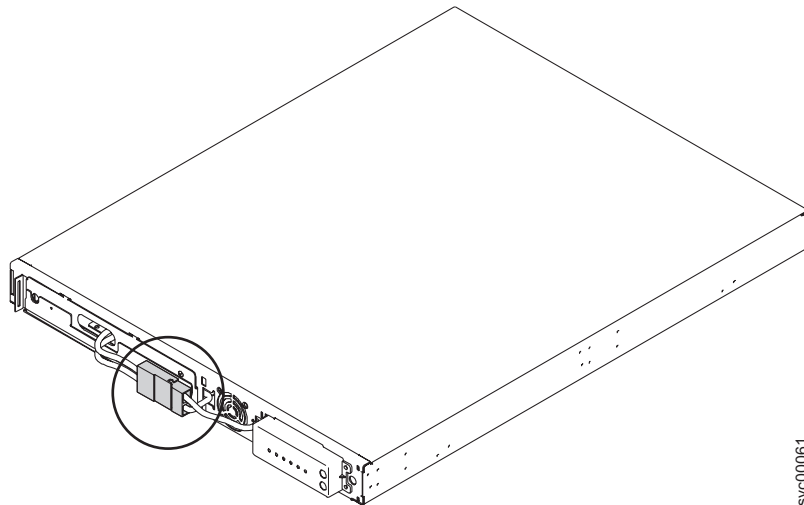

Figure 145. The 2145 UPS-1U with internal battery connectors in place
7. Connect the internal battery connector. See Figure 145 on page 362